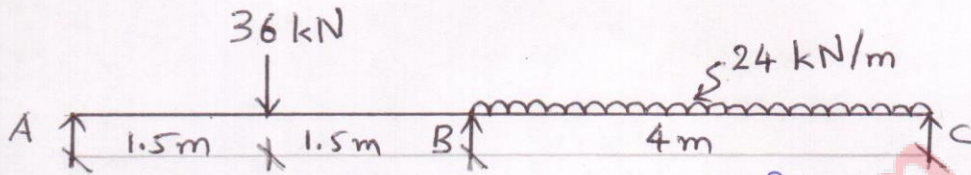

Fig. 2, Q. 2(c) OR
- (c) Draw S.F. and B.M. dia. for a continuous beam ABC as shown in Fig.2. Use moment distribution method. 04